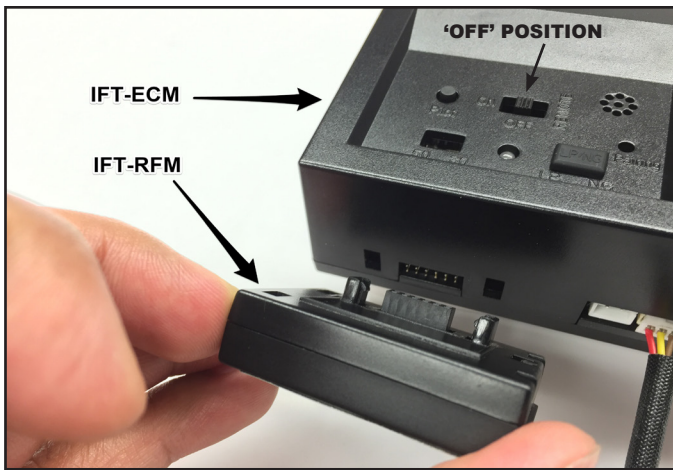

Figure 1 Connect IFT-RFM to IFT-ECM
2. Locate the IntelliFire Touch electronic control module (IFT-ECM) in the control cavity of the appliance and move the three-position switch to the OFF position. See Figure 1.
3. Connect the IFT-RFM to the IFT-ECM by aligning the pins and tabs and pushing the IFT-RFM into the IFT-ECM until both tabs snap into position. Ensure the two components are fastened securely to one another. See Figure 1.